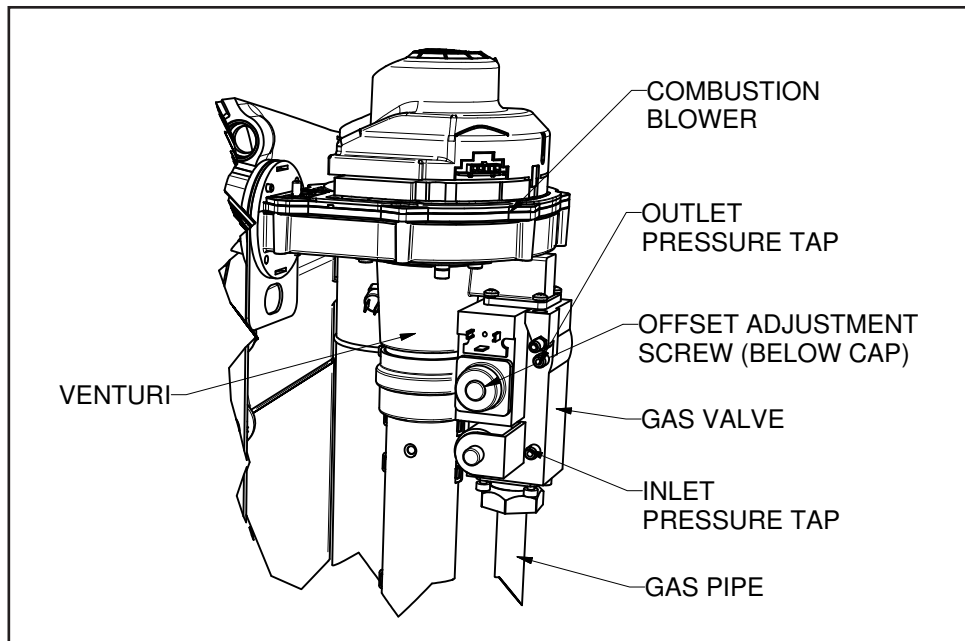

Figure 25. Gas valve adjustment.
3. Remove the cap that covers the gas valve offset screw (see figure 25 for location). Adjust the low fire CO2 to be 0.2% lower than the recorded high fire CO2. Turn the offset clockwise to increase the CO2 value. Turn the offset counter-clockwise to decrease the CO2 value. Replace the offset cap when adjustment is complete.